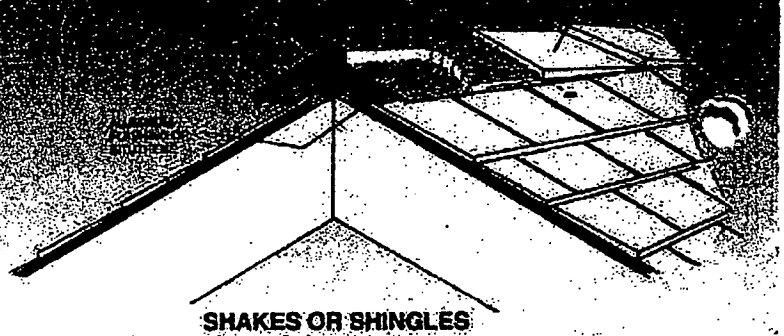

FIG. 8
- (4.) Install ridge flashing and cap with shakes or saddle boards as shown in figure 8. Note: Discard nails provided with Cor-A-Vent and use nails of sufficient length to penetrate through roof sheathing.
- (1.) Check the ridge vent, from up on the roof, to insure it is nailed down firmly against the shingles. If it is a shake roof, does it have the flashings described on page 6, figure 8?